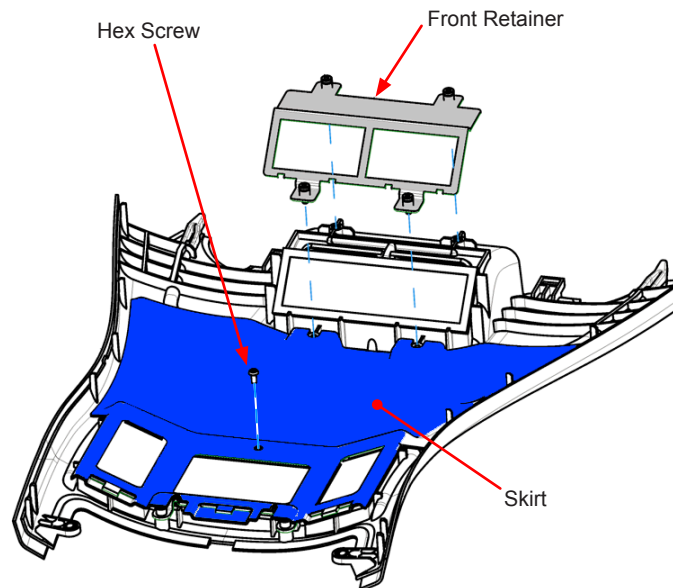

Figure 4-34 Lower Front Panel - Front Retainer and Skirt Removal
- 14.2 Loosen four 3 mm captive screws securing the Front Retainer to the panel (see Figure 4-34). Remove Front Retainer and filter.